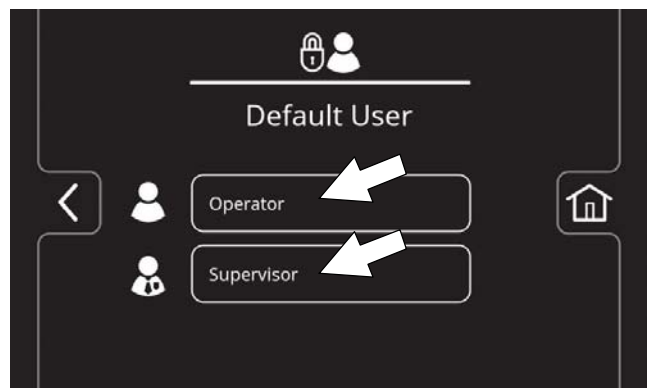

FIG. 176
6. Press either the Operator button or Supervisor button to select desired user profile as your home screen default without login (Figure 176).